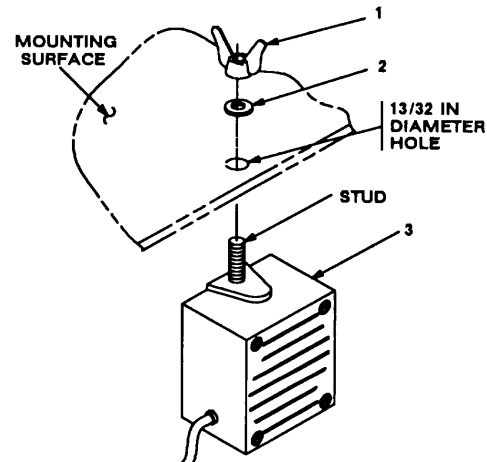

Figure 5-6 (1). Speaker Installation - A
- a. Determine speaker (3) location.
- c. Insert speaker (3) stud through drilled hole; then secure with lock washer (2) and wing nut (1).
7. NUT (114-20 In) Method B. See figure 5-6 (2).